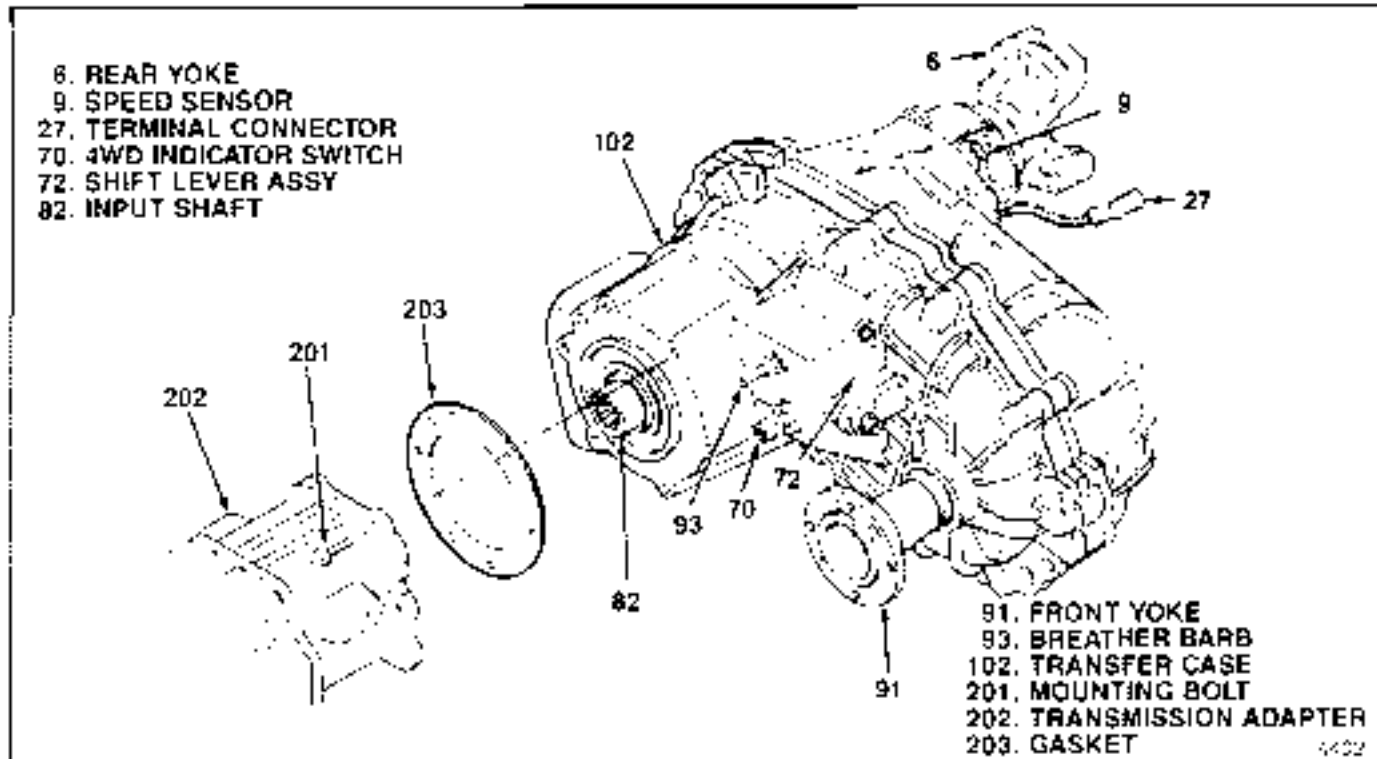

Figure 2-2. Transfer Case Installation
**2-11. REMOVAL OF TRANSFER CASE.** Refer to the vehicle service manual for specific instructions regarding supports, skid plates, shift linkage, wiring harnesses, power take-off and other components related to the transfer case installation. These may need to be removed to provide access to the transfer case. A suitable hoist for the vehicle and a jack or stand for the transfer case will be required. The jack or stand must be capable of completely and independently supporting the transfer case. It also must be able to lower, raise and move the transfer case laterally. Proceed as follows (see figure 2-2):
l. Remove six bolts (201) attaching transfer case to transmission adapter (202).
m. Move transfer case straight back to completely disengage spline of transfer case input shaft (82) from transmission.
o. Remove gasket (203) used between transmission and transfer case.
**2-12. INSTALLATION OF TRANSFER CASE.** Refer to the vehicle service manual for specific instructions regarding supports, skid plates, shift linkage, wiring harnesses, power take-off and other components which were removed to provide access to transfer case. With vehicle on hoist and transfer case on a suitable jack or stand, proceed as follows (see figure 2-2):
b. Install new gasket (203) on mounting face of transfer case.